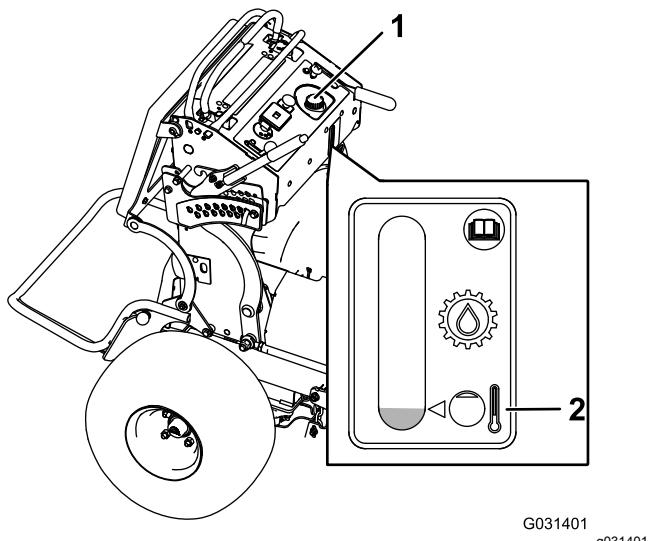

Figure 71
4. Clean the area around the cap and the filler neck of the hydraulic tank (Figure 71).
5. Remove the cap from the filler neck (Figure 71).